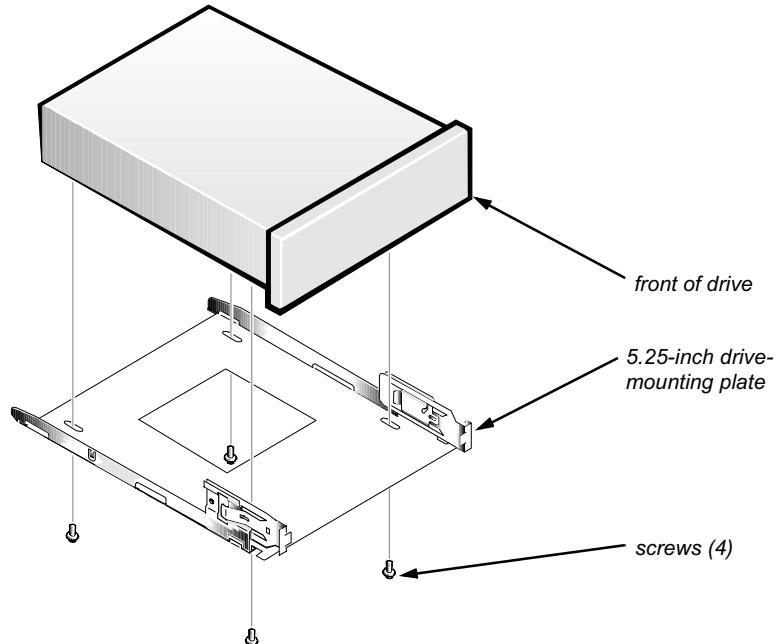

Figure 6-12. 5.25-Inch Drive Removal
- 3. Remove the four screws attaching the 5.25-inch drive to the mounting plate, and lift the drive out of the mounting plate (see Figure 6-12).**